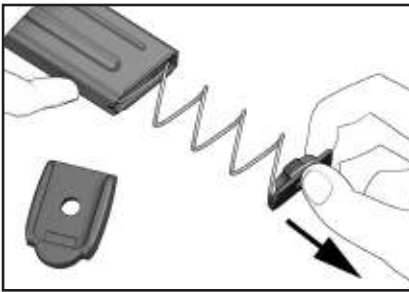

Figure 32
4. Gradually allow the locking plate and spring to expand out of the magazine housing (see Figure 32).